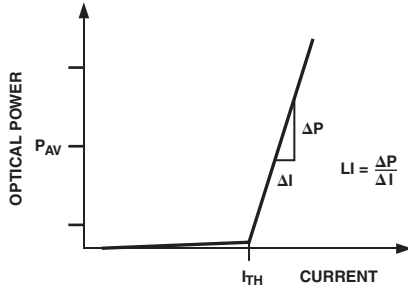

Figure 1. Laser Transfer Function
Laser diodes have current-in to light-out transfer functions as shown in Figure 1. Two key characteristics of this transfer function are the threshold current,  $I_{TH}$ , and slope in the linear region beyond the threshold current, referred to as slope efficiency (LI).